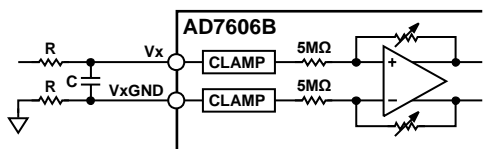

Figure 45. Input Resistance Matching on the Analog Input of the AD7606B
It is recommended to place a series resistor on the analog input channels to limit the current to ± 10 mA for input voltages greater than ± 21 V. In an application where there is a series resistance (R) on an analog input channel, Vx, it is recommended to match the resistance (R) with the resistance on VxGND to eliminate any offset introduced to the system, as shown in Figure 45. However, in software mode, there is a per channel system offset calibration that removes the offset of the full system (see the System Offset Calibration section).